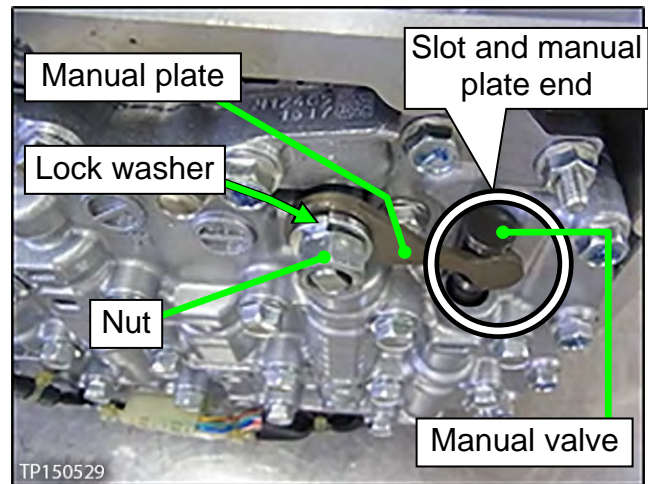

Figure 34
8. Install the manual plate, lock washer, and nut (Figure 34).